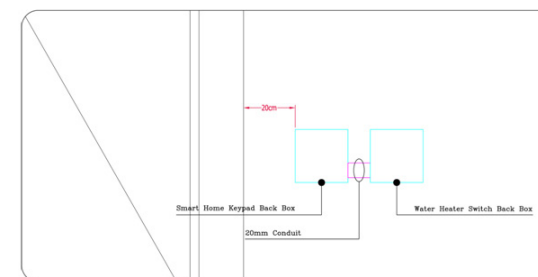

Figure1.3.10: Connection between the Smart Home Keypad and Water Heater Switch
- 1 No. 20mm conduit with Cat.6 cable should be provided between the water heater conventional switch and the nearest smart home keypad as shown in Figure1.3.10.